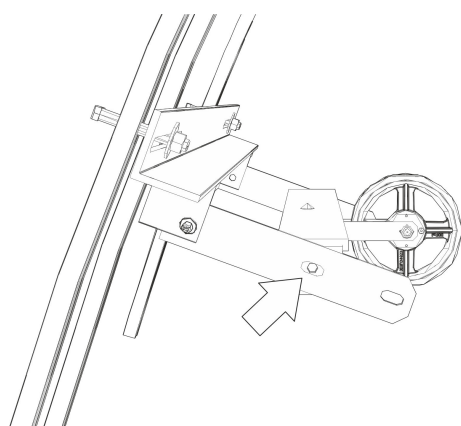

Fig. 33: Installing the pulley
- 5. ➔ Bolt on the pulley with its mounting between the two top connection plates, using two hexagon bolts in the middle slotted hole on the connection plates (Fig. 33).